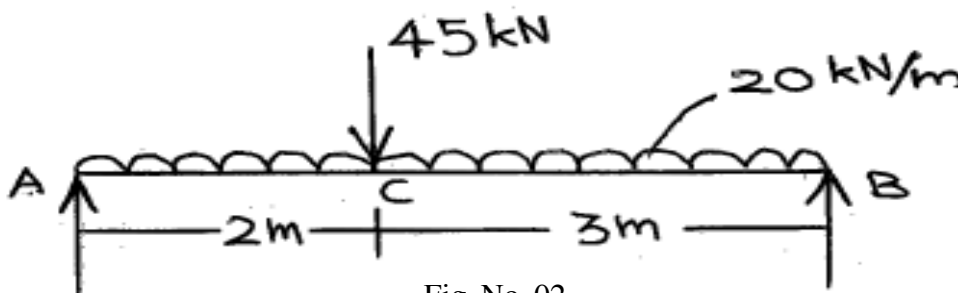

Fig. No. 02
- c) Draw S.F. and B.M. diagrams for the simply supported beam shown in Fig. No. 02. 4